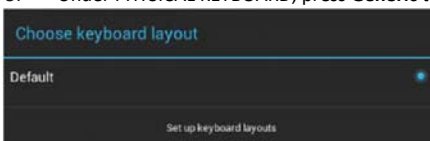

FIG. 90 Choose Keyboard Layout window
5. Under PHYSICAL KEYBOARD, press **Generic** to open the Choose Keyboard Layout window (FIG. 90):